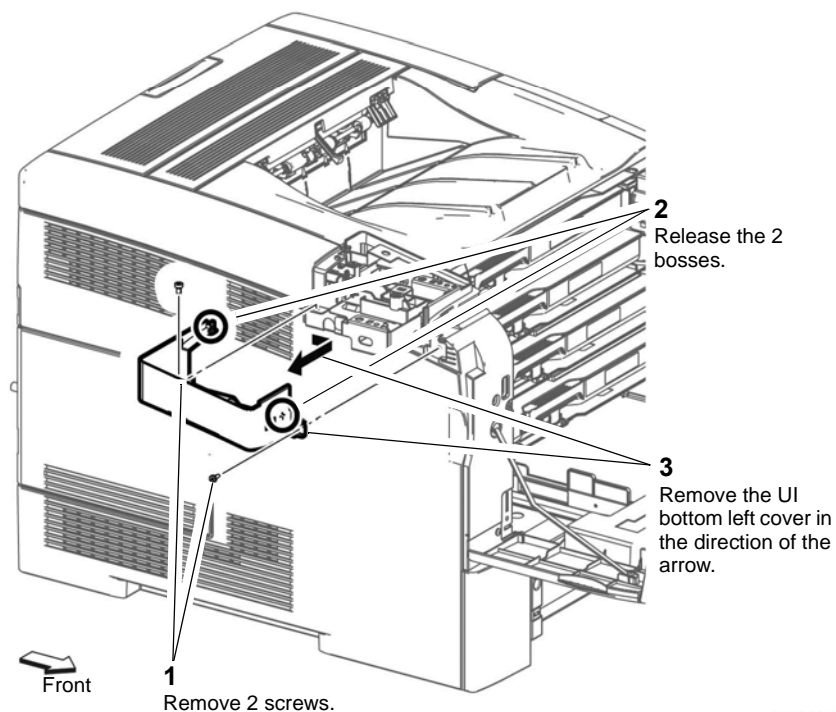

Figure 1 UI bottom left cover
3. Remove the UI bottom left cover C400, Figure 1.